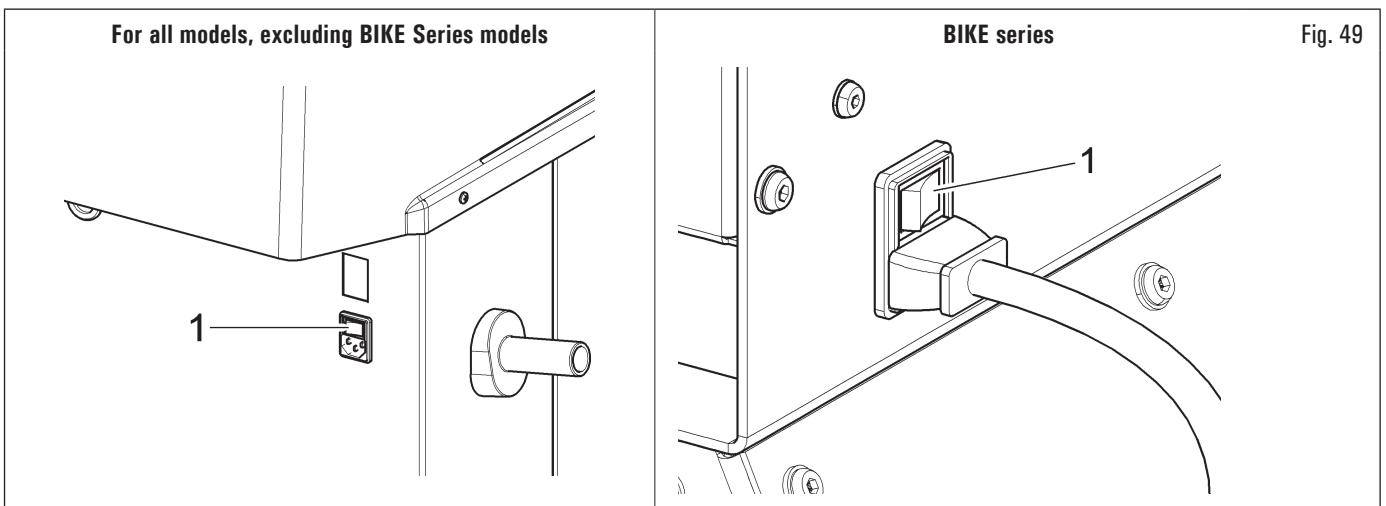

Fig. 49
Once the plug/socket connection has been made, turn on the equipment using the main switch (Fig. 49 ref. 1).